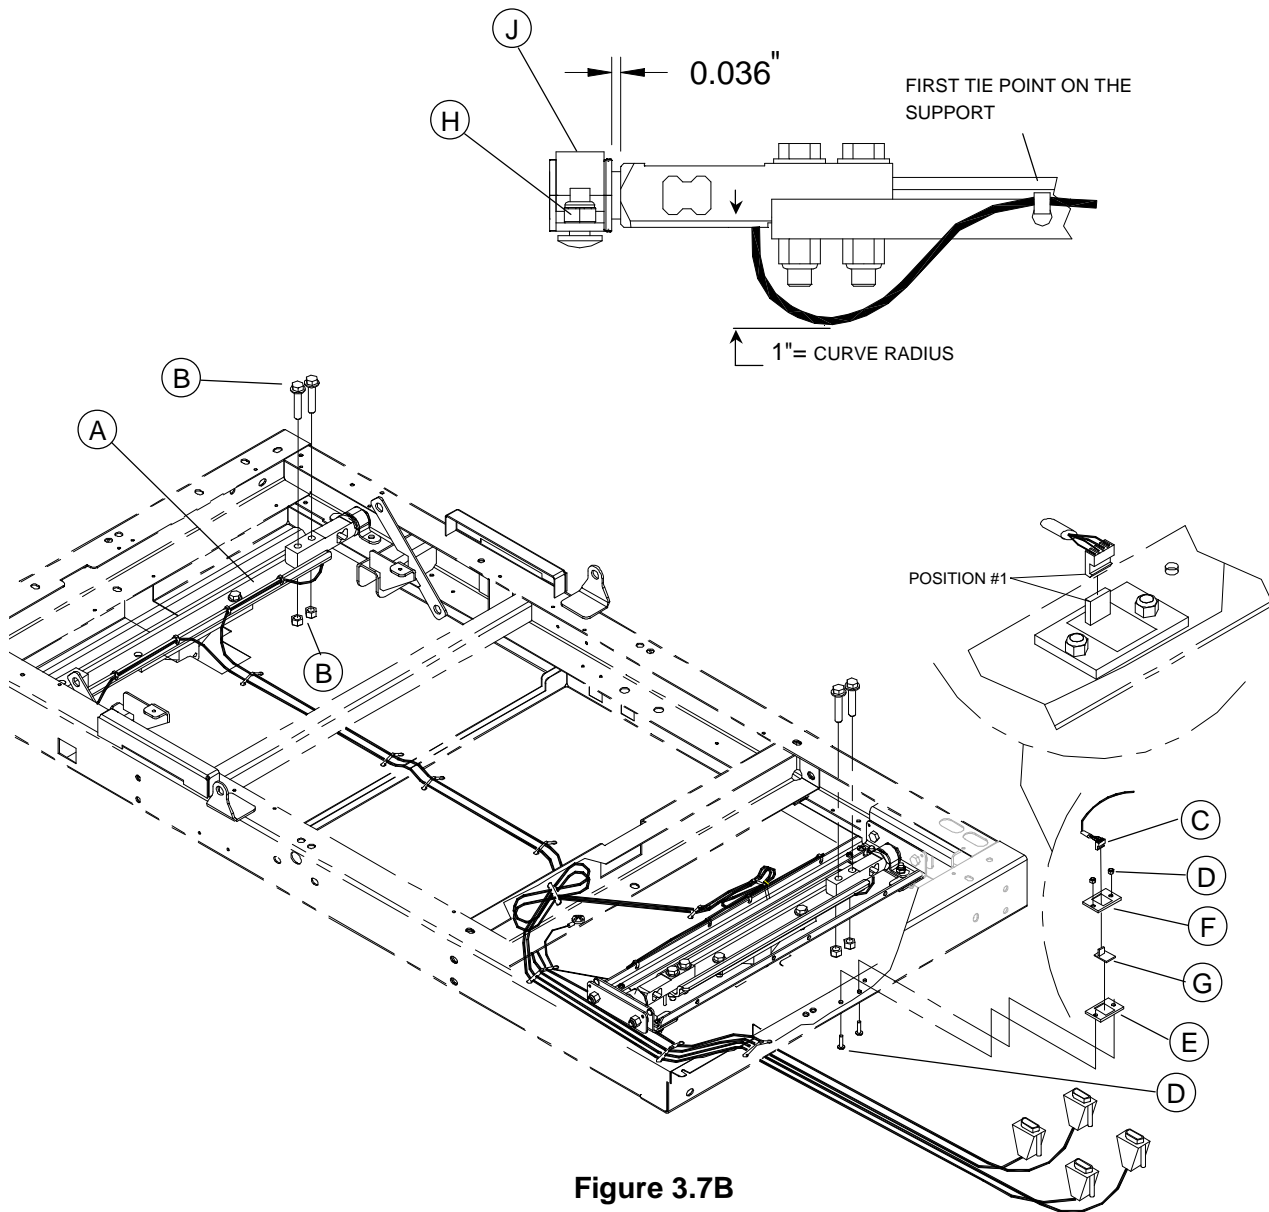

Figure 3.7B
When tying the cable to the first tie point, ensure the cell cable has a 1" radius curve before tying it to the support (see figure 3.7B on page 24).
Before definitively tightening the two bolts holding the replacement load cell, it is important to make sure that the replacement load cell is perfectly centered with the load cell located on the other end of the frame support and that a .036 in (.914 mm) distance separates the load cell from the adjacent nylon support (see figure 3.7B on page 24). To do so:
- Using a 1/2" wrench, loosen lightly the two locknuts (H, fig. 3.7B, page 24)) holding the clamp (J, fig. 3.7B, page 24) to the frame and move the nylon bearing until a 0.036" shim can be inserted between the load cell and the nylon bearing (see figure 3.7B on page 24). Tighten the two locknuts.